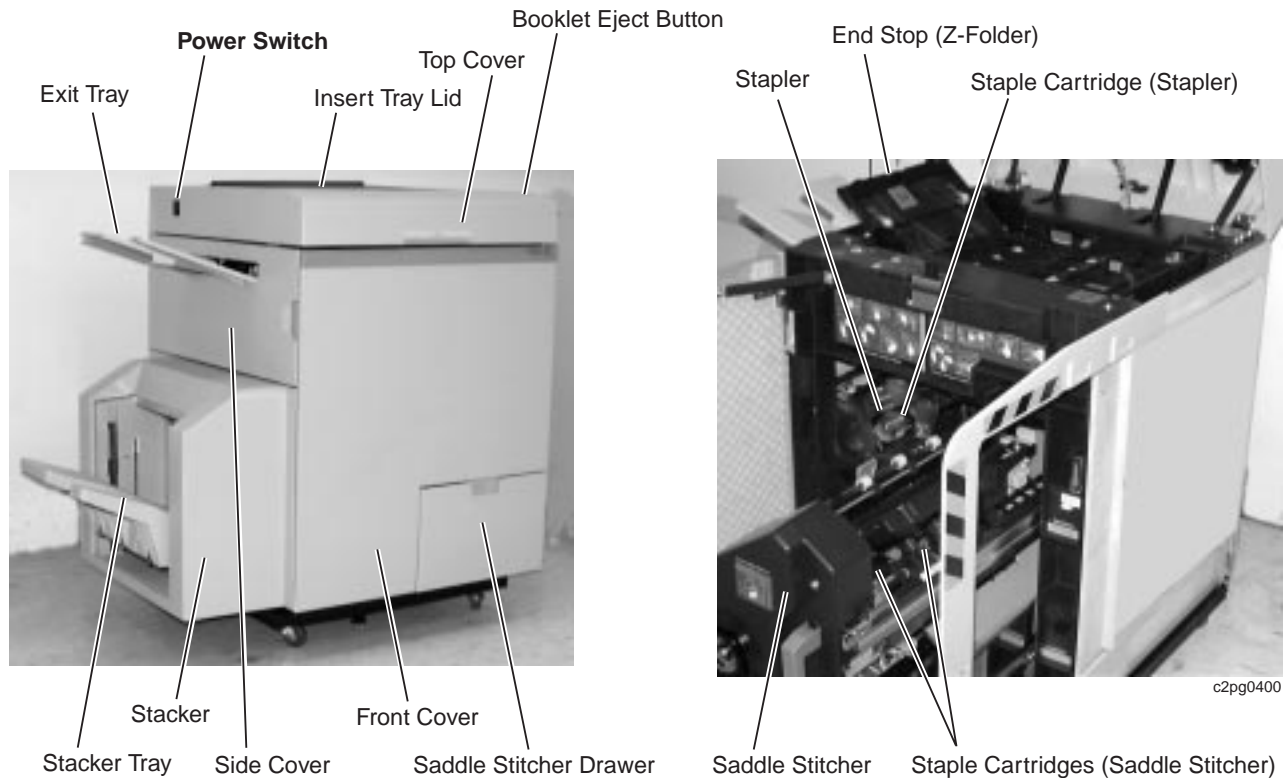

Figure 1. Covers and Components.
Figure 1, which shows the finisher detached from the printer, introduces you to the names for the various covers and some of the components. Notice the power switch located at the left, rear of the top cover. Use this power switch to power off or power on the finisher. The printer that is attached to the finisher has an additional, separate power switch. The power switch on the **printer** controls only the printer power. The power switch on the **finisher** controls only the finisher power. Read “Powering Off the Finisher” on page 24 before powering off the finisher.
**Note:** In Figure 1, notice the power switch, and notice the saddle stitcher in the service position (printer removed for clarity).